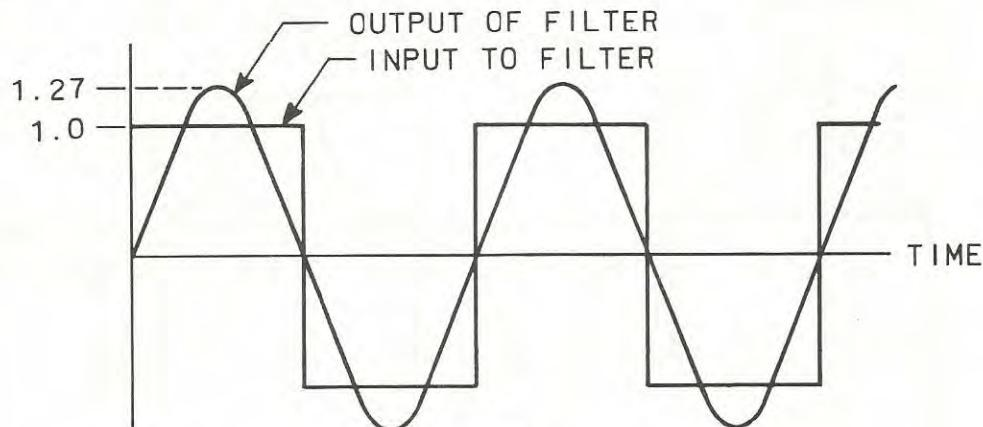

FIGURE 3
The squarewave signal has components at the fundamental and odd harmonic frequencies only, i.e., 10, 30, 50, 70, etc. kHz. Since the filter cuts off at 15 kHz only the fundamental (10 kHz) component of the squarewave appears at the filter output. Note that if the squarewave amplitude (A) is one volt, then the peak value of the fundamental component (identically equal to the output signal) is  $4/\pi$  or 1.273. This constitutes an overshoot of 27%. The squarewave and its fundamental component are shown superposed in Fig. 3.